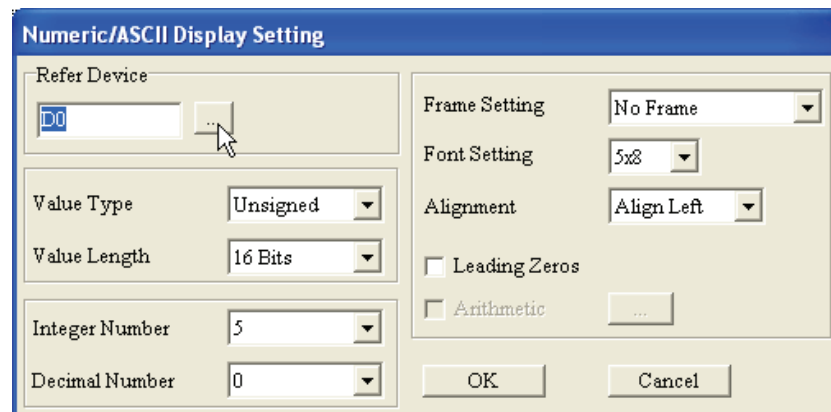

Figure 1-63
Step 1. Choose **Object(O) > Numeric/ASCII Display(A)** command from the menu bar or click the icon  on the toolbar to create a Numeric/ASCII Display object. After double-clicking the object, the following Numeric/ASCII Display Setting tab will display (Figure 1-63).
- Step 3. It is used to set write-in PLC Device Name, i.e. T, C, D or the Device Name, i.e. @V of TP05/08. The Device Number is shown in decimal format and the users could click  to select the necessary Device Name. If the connected controller is AC motor drive (Inverter), it does not need to check the Device Name. The symbol \$ will show after the Device Name to represent the absolute address of AC motor drive. What the users need to do is to input absolute address in the field of Device Number. For example, enter the register D10, timer T1 and the absolute address of AC motor drive \$2003 to read the output frequency. The communication address is used to determine which PLC or AC motor drive will be communicated with, i.e. the communication address of the connected PLC or AC motor drive. The users also could select COM1 (RS-232) or COM2 (RS-485/RS-422) for the communication port that used to connect to the monitored equipment. After completing the settings, click **OK** button, and return to Numeric/ASCII Display Setting tab (Figure 1-63).